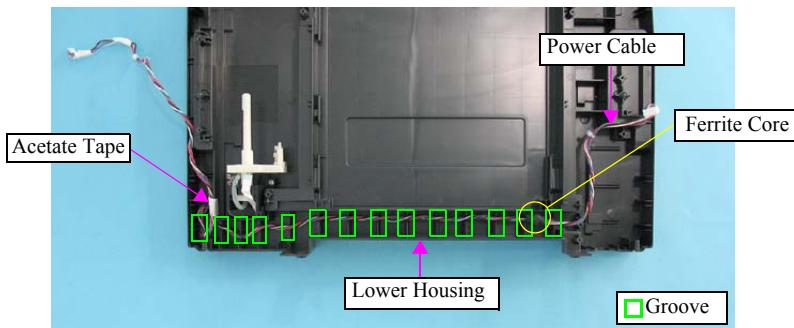

Figure 4-72. Removing the Power Cable
- As shown in Figure 4-72, route the power cable through the 14 grooves on the Lower Housing.